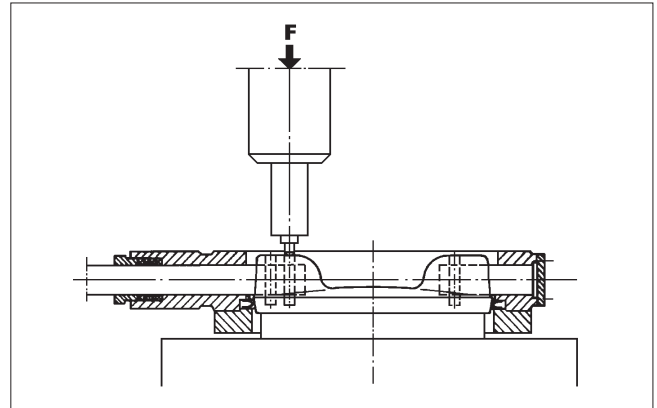

Fig. 15 Pressing the pins
- Support the disc well in a horizontal position during mounting of the pins. Push the new pins into the holes and press them in a press to final form (see Fig. 15). Use a smaller tool than the pin diameter. See Table 9 for forces.